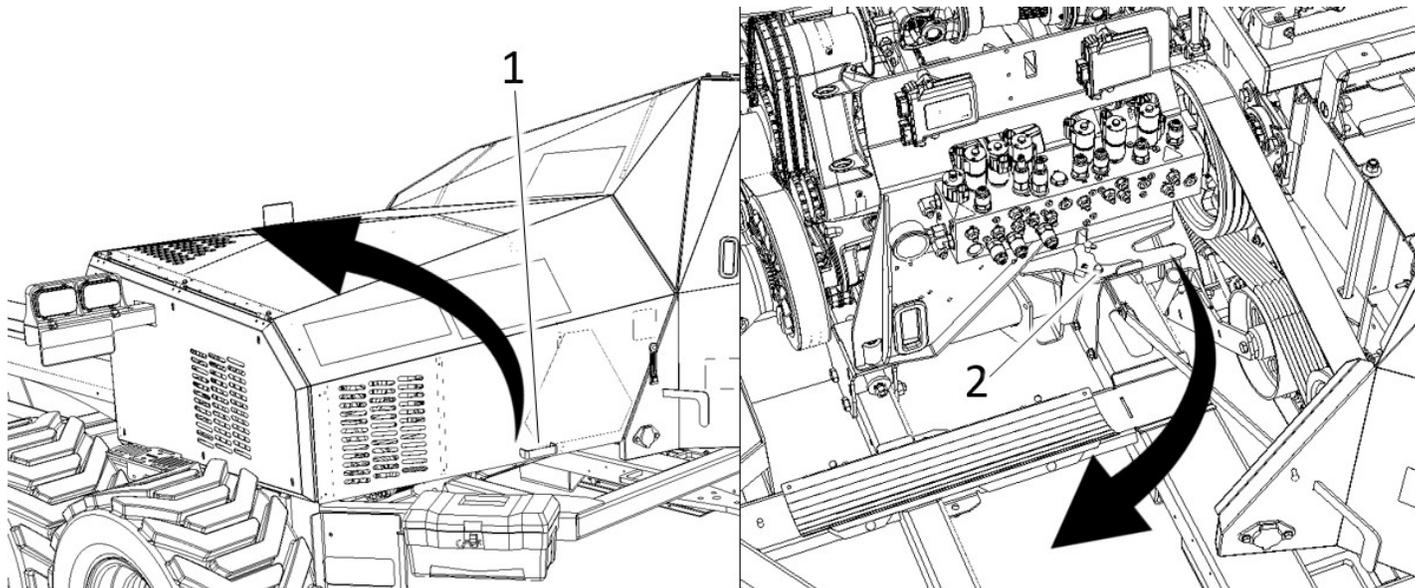
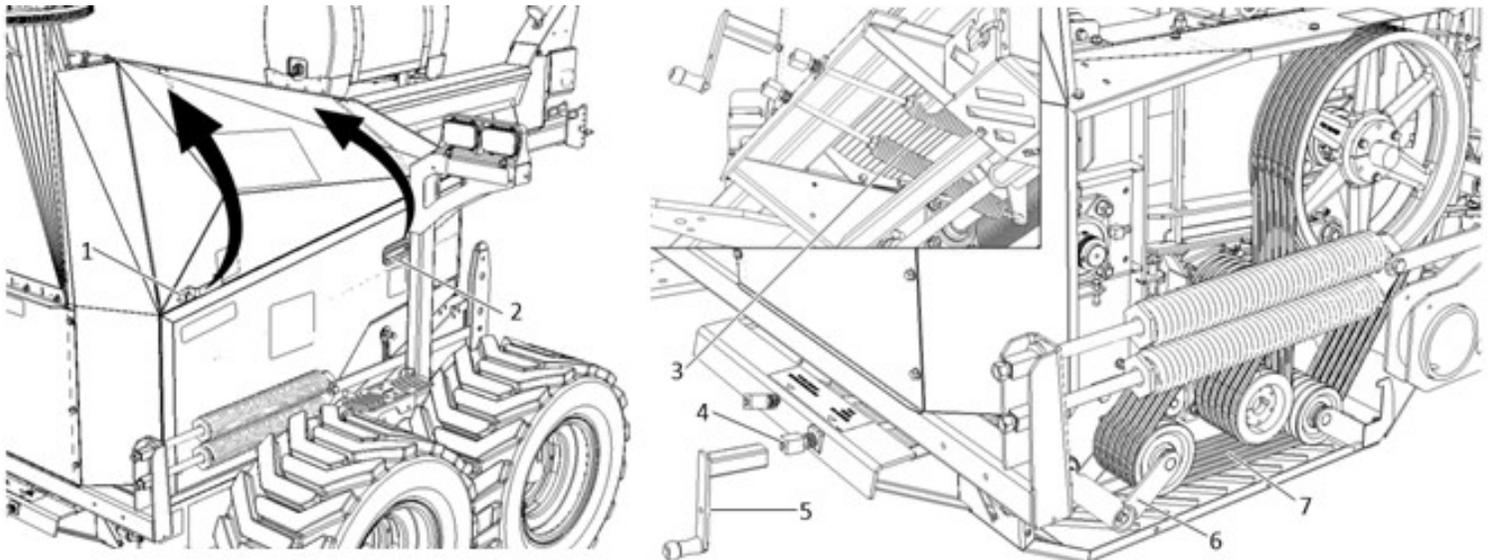

Figure 34 Main guard and valve manifold
Figure 37 Guards and processor rolls
STEP 1 - FIGURE 34
STEP 4 - FIGURE 37
Replace the side guard (item 2, FIGURE 37), the right butterfly guard (item 1, FIGURE 37) and the main guard (item 1, FIGURE 34) and lock.